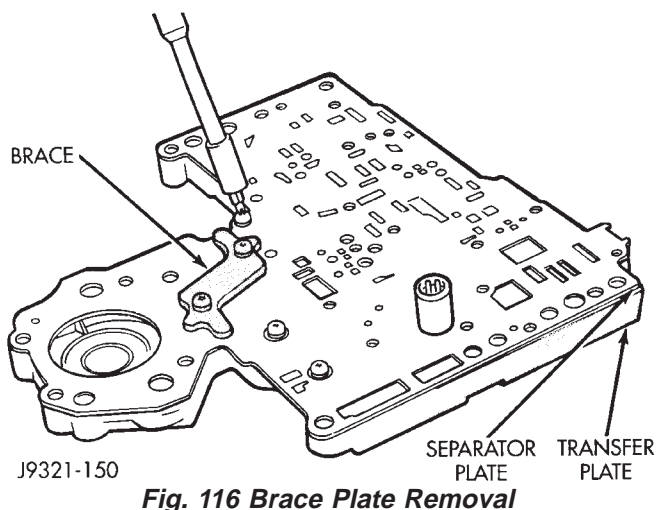

Fig. 116 Brace Plate Removal
(29) Turn transfer plate over so upper housing separator plate is facing upward (Fig. 116).
(30) Remove brace plate from lower housing separator plate and transfer plate (Fig. 116).